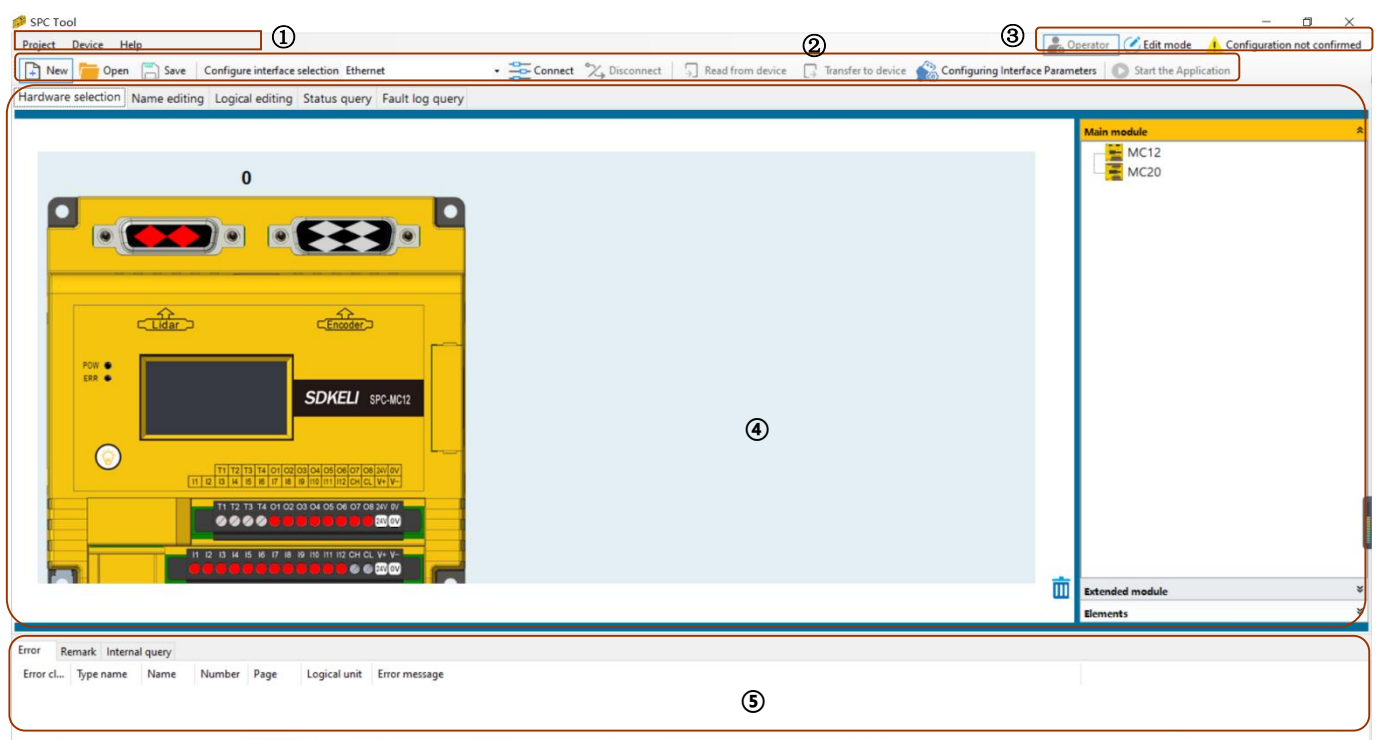

Figure 4.2 Hardware Configuration Interface
[New] and [Open] will both enter the main interface. As shown in Figure 4.2, the main interface opened by clicking [New].
The main window is comprised of the following 9 sections: ①-Menu Bar、②-Toolbar,③-Status Box,④-Hardware Selection Interface,⑤-Configure Error Panel,⑥-Name Editing Interface, ⑦-Logic Editing Interface, ⑧-Status Query, ⑨-Fault Log Query, as shown in Figures 4.2 to 4.6.